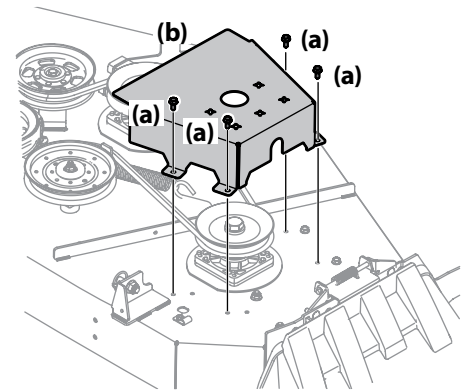

Figure 4-15
2. Remove the hex washer screws (a) securing the belt covers (b) to the deck. See Figure 4-15.
- Remove the two idler pulleys (a & b) by removing the hex screws (c) and flange lock nuts (d) that secure them to the deck and the idler arm (e). See Figure 4-15. Do not lose any of the hardware (pulley caps (f), washers, belt guards (g) (if equipped)) when removing the hex screw (c) and flange lock nut (d).
- Install the new belt around the spindle pulleys as shown and reinstall the belt covers (b). See Figure 4-15.